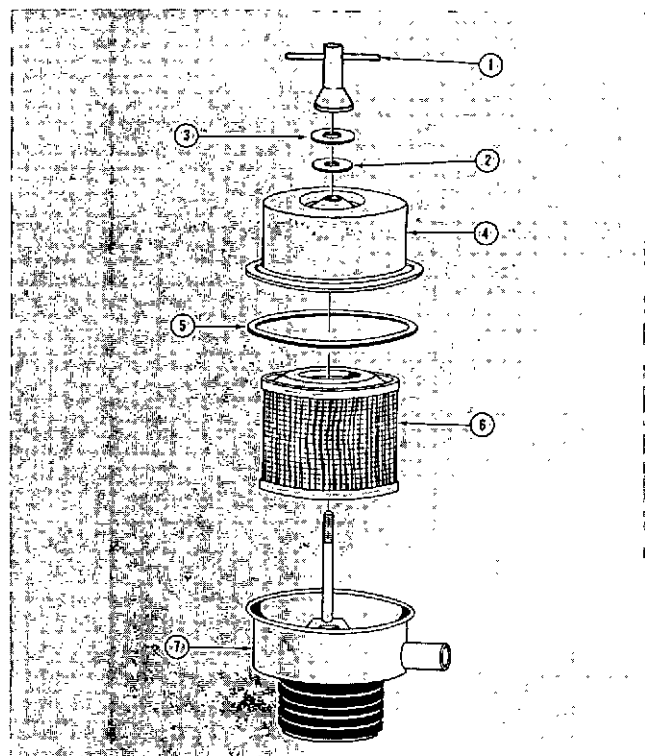

Fig. 2-18 (N20311) Crankcase breather — combination type
1. Remove wing nut (6, Fig. 2-18), flatwasher and rubber washer securing cover (1) and element assembly to breather.
2. Remove cover, element (2) and gasket (4).